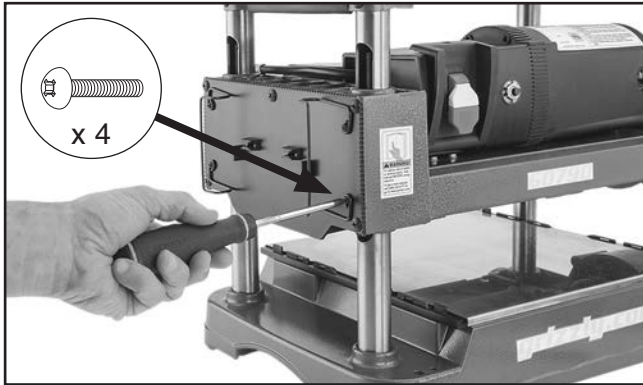

Figure 9. Cord wraps installed with #2 Phillips head screwdriver.
- Position (2) cord wraps over pre-drilled holes in planer cabinet (see **Figure 9**), and secure with (4) M4-.7 x 10 Phillips head screws.